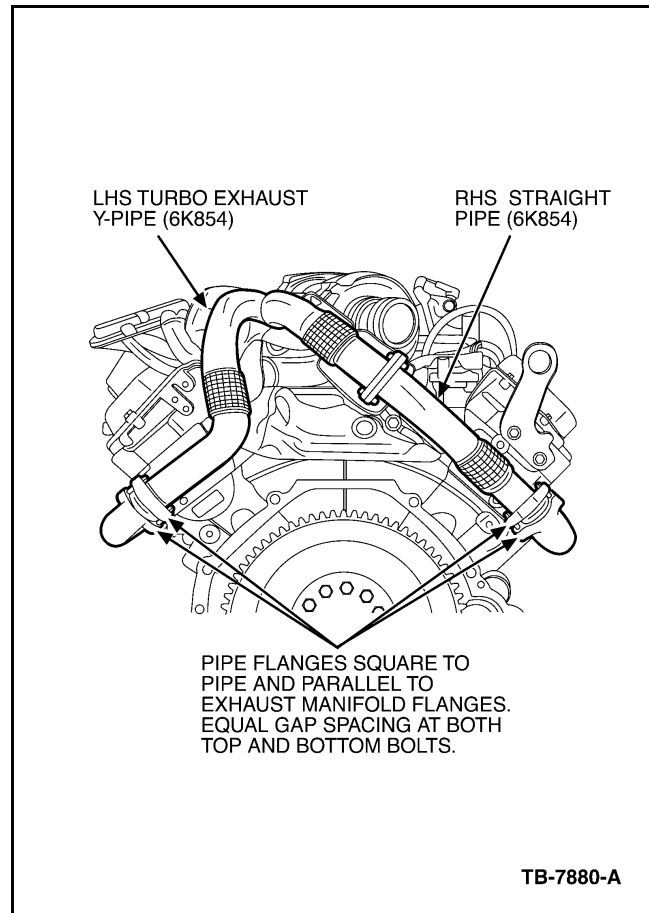

Figure 1 - Article 04-9-4
- Check for good alignment and fit of the lower LHS Y-pipe and RHS straight pipe flanges at the mating exhaust manifold outlets. Secure the LHS Y-pipe and RHS straight pipe to the exhaust manifold outlets using M8 bolts (two (2) per side). Using hand tools snug fasteners evenly to position the pipe flanges square to the pipe and parallel to the exhaust manifold flanges. There should be an equal gap spacing between the pipe flange and exhaust manifold flange at both the top and bottom bolts (Figure 1).